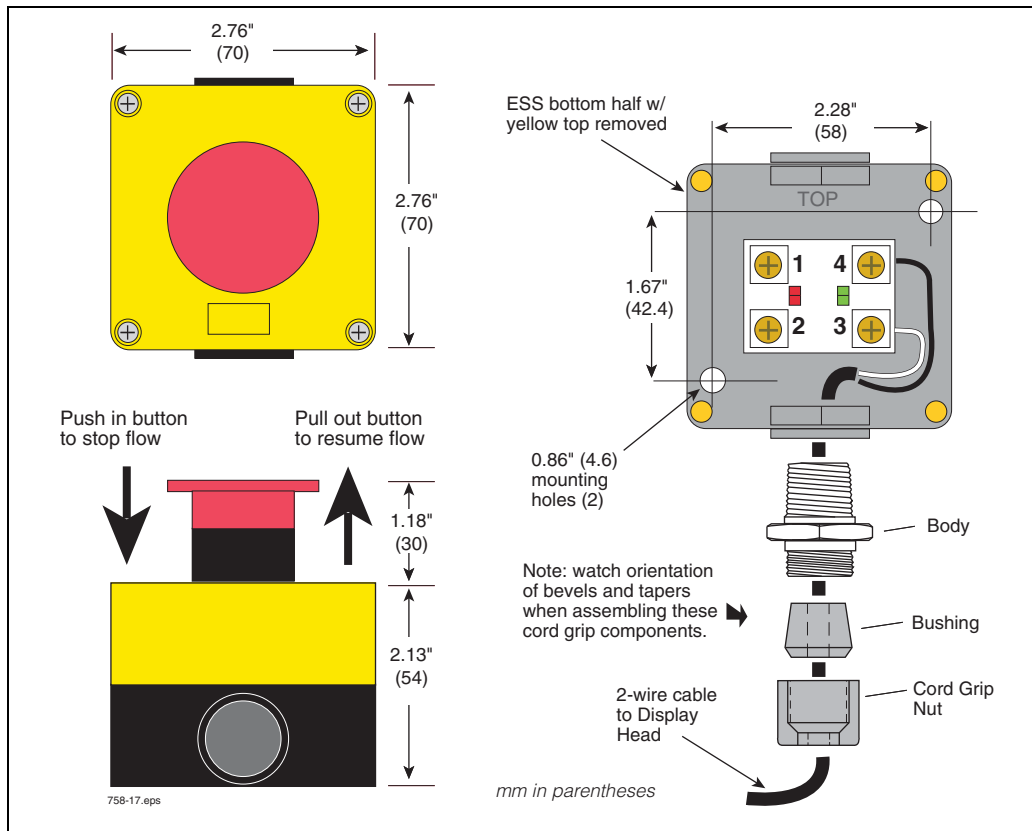

Figure 19. Emergency Stop Switch Mounting And Wiring Diagram
1. If you have the optional ESS switch (P/N: 845900-021), you should install it on the truck near the Display Head. There are two 0.181" (4.6 mm) diameter mounting holes in the ESS switch base. Also, you will need a length of 2-wire cable to connect the ESS switch to the Display Head (see Figure 19),
2. Unscrew the yellow top half of the ESS switch and put it and the gasket aside. Push out the bottom knockout in the black bottom half of the switch housing. Mount the bottom half of the switch to the truck in a place that will be quickly accessible during a delivery, using (2) 0.157" (4 mm) screws. Screw the cord grip fitting from the kit into the knockout in the switch's bottom half. Loosen the cord grip nut/bushing and push one end of the 2-wire (black and white) cable through the cord grip fitting and into the switch housing.